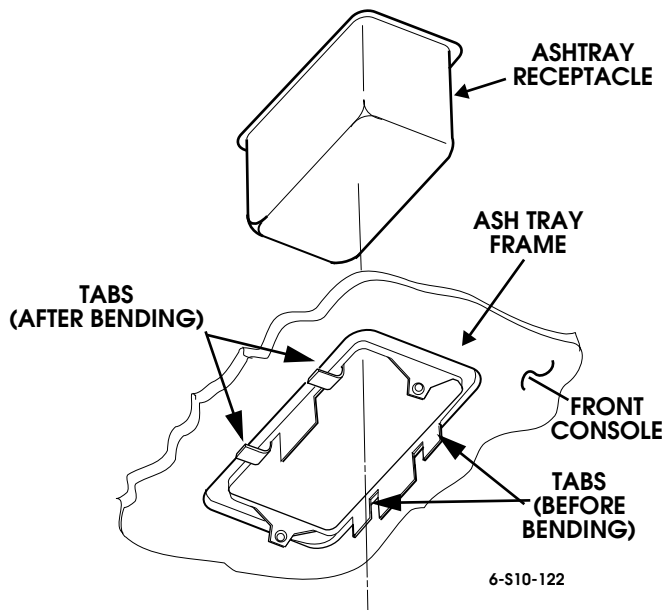

Figure 10-24: Ashtray Mounting
2. Pull ashtray receptacle out of frame (Figure 10-24).
2. Push ashtray receptacle into frame (Figure 10-24).